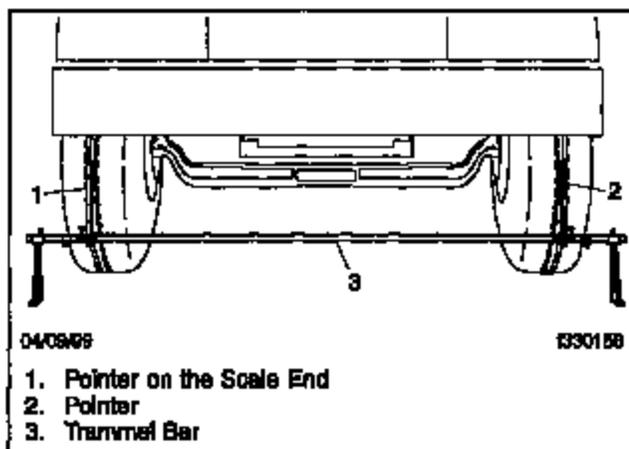

Fig. 3, Trammel Bar Positioning
- Remove the trammel bar from the rear of the tires. Then position it at the front of the tires so the pointer on the end without the scale is centered on the scribed line on the tire. See Fig. 3.